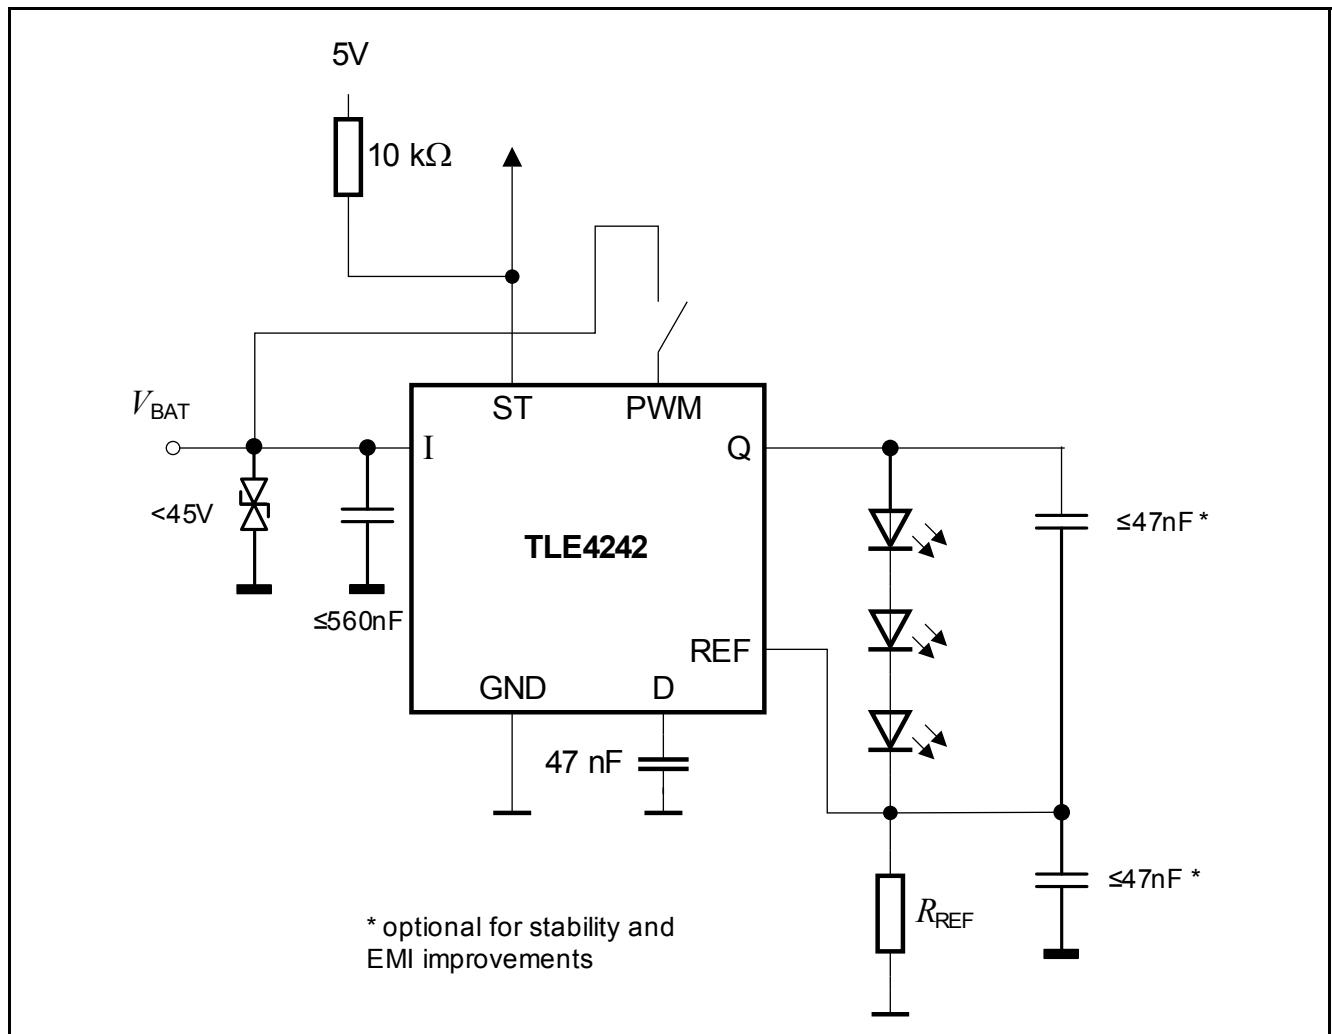

Figure 6-1 Application Diagram
The application example in **Figure 6-1** shows a typical application with the TLE4242EJ LED driver. The three LEDs are driven with an adequate supply current adjusted by the resistor R_{REF} . Thus brightness variations due to forward voltage spread of the LEDs are prevented. The luminosity spread arising from the LED production process can be compensated via software by an appropriate duty cycle applied to the PWM pin. Therefore, selection of the LEDs to forward voltage as well as to luminosity classes can be spared. The minimum supply voltage for the application is the sum of the LED forward voltages, the TLE4242EJ drop voltage **Minimum drop voltage $V_{dr} = V_I - V_Q$** and the max. voltage drop at the shunt resistor R_{REF} of $V_{REF(max)}$ according to **Reference voltage**.
2) $V_Q - V_{REF}$ equals the forward voltage sum of the connected LEDs, see Figure 6-1